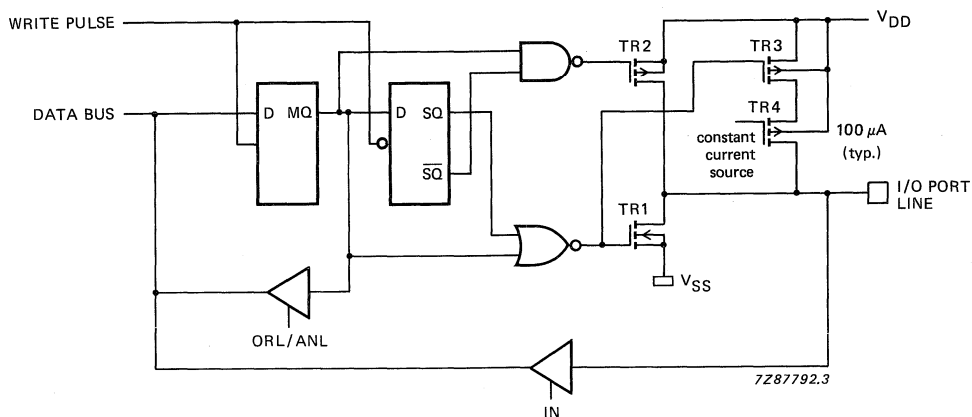

Fig. 10 Standard output with switch pull-up current source.
Fig. 10 shows the quasi-bidirectional I/O interface with push-pull output and switched pull-up current source.
- Option 1 – STANDARD PORT; quasi-bidirectional I/O with switched pull-up current source of 100  $\mu$ A (typ.) and P-channel booster transistor TR2. TR2 is only active during 1 clock cycle (Fig. 10).